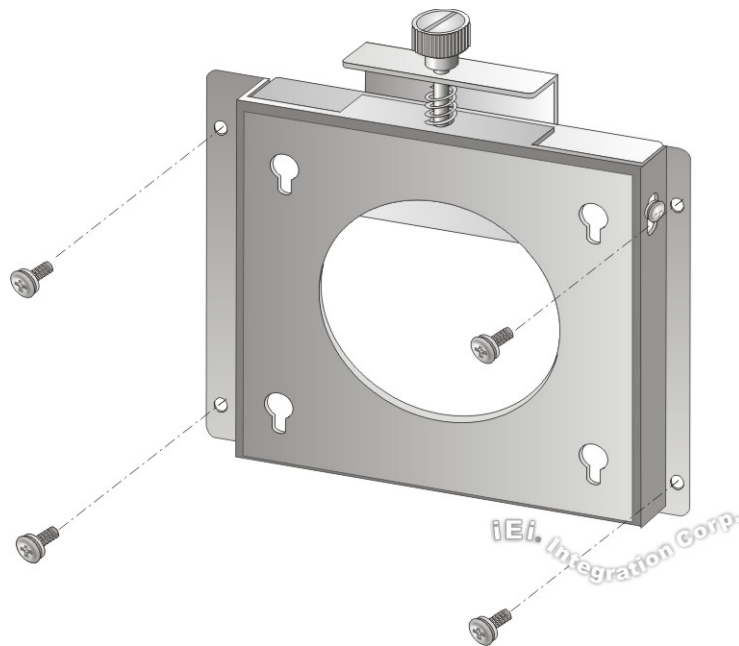

Figure 3-6: Wall-mounting Bracket
- Step 5:** Secure the mounting-bracket to the wall by inserting four retention screws (M4*8) into the four pilot holes and tightening them (**Figure 3-6**).